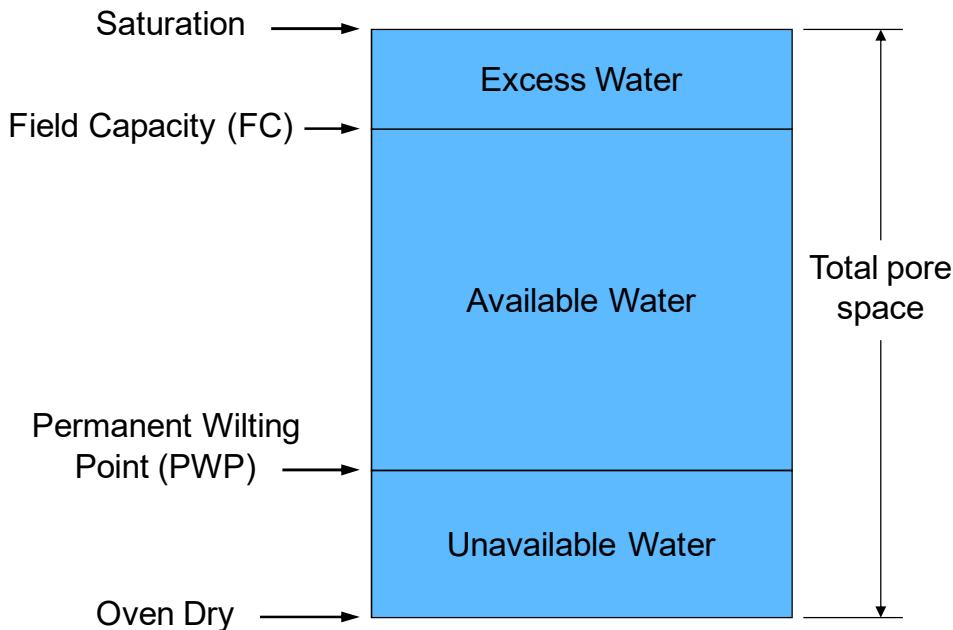
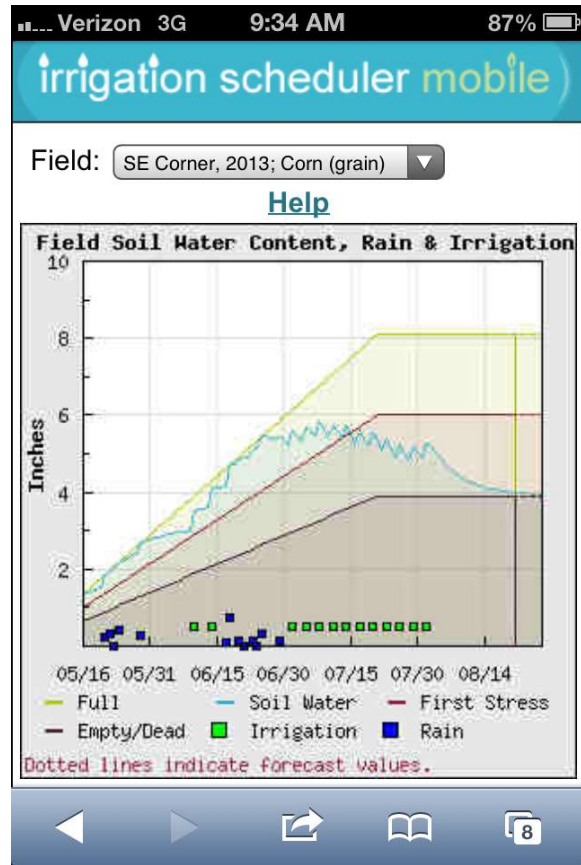

Figure 5. The various components of the soil water content.
Figure 15. Shows how water stress (below the MAD line) causes daily water use to decrease.
Water is held in the empty spaces between soil particles. When these empty spaces are completely filled, the soil is said to be saturated (Figure 5). Excess water will drain out over time until a point where the soil can hold a certain amount of water indefinitely against the downward pull of gravity. This soil water content is the soil's *full* point called **field capacity (FC)** and in this application is measured in inches of water per foot of soil depth. The excess water that drains will move down to lower soil layers. Applying more water than a soil can retain in the plant's managed root zone results in water loss to **deep percolation (DP)** or "deep water loss". Water loss to deep percolation wastes water, pumping energy, and vital plant nutrients that are held in the soil water solution.
Figure 15 is an example of a field where the irrigation system cannot keep up with crop water use demands and also shows how the model will modify daily crop water use numbers using the assumptions illustrated by Figure 5. As the soil dries below the First Stress (MAD) point, the *rate* of drop in the soil water content decreases over time as the plant shuts down.